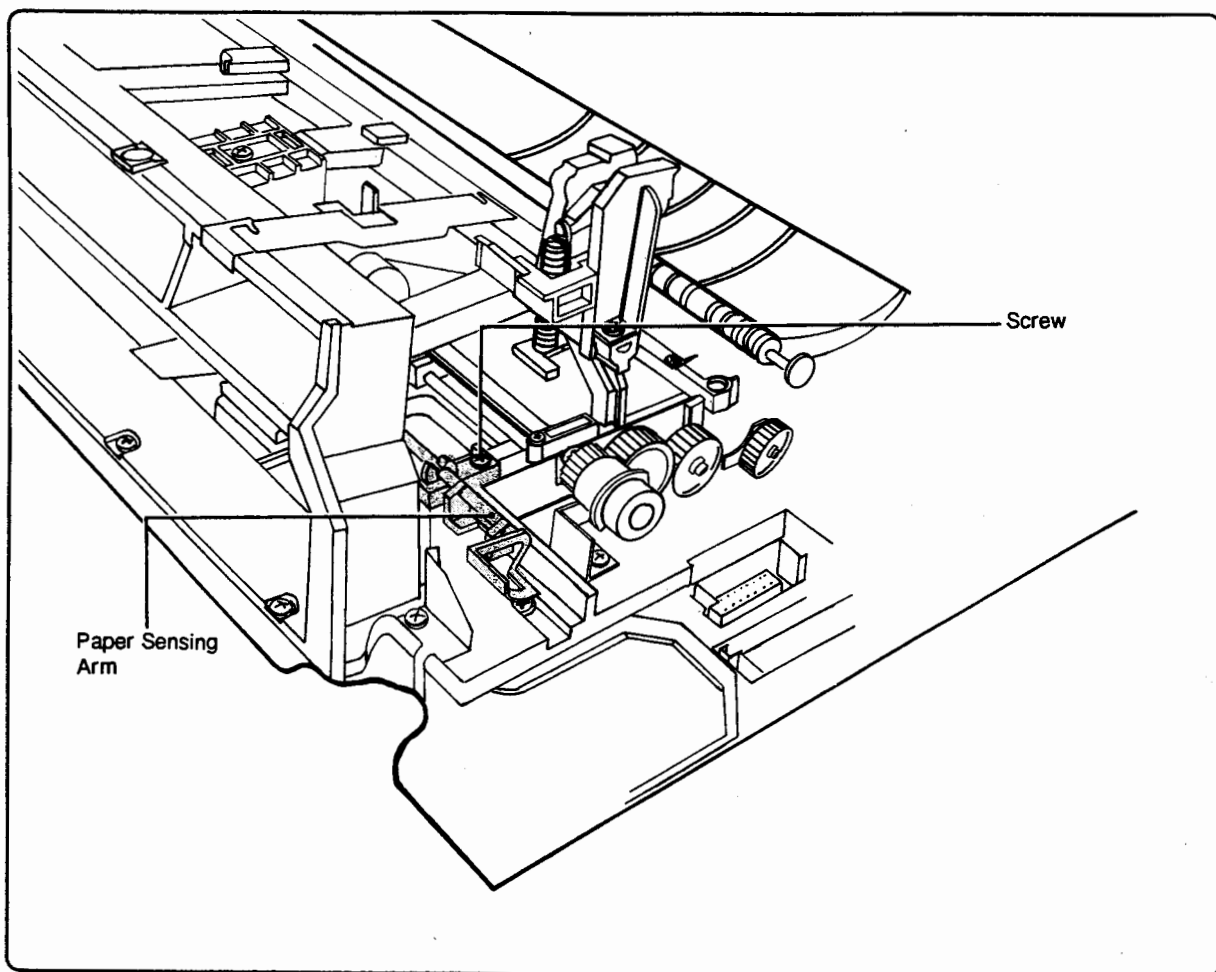

Figure 6-24. Paper Sensing Arm
Care must be taken not to damage the Paper Sensing Arm (see Figure 6-24) and Fiber Optic Cable when removing the DC Power Supply Assembly.
2. Remove the screw (1) securing the Paper Sensing Arm bracket to the Main Body Assembly (see Figure 6-24 for location).